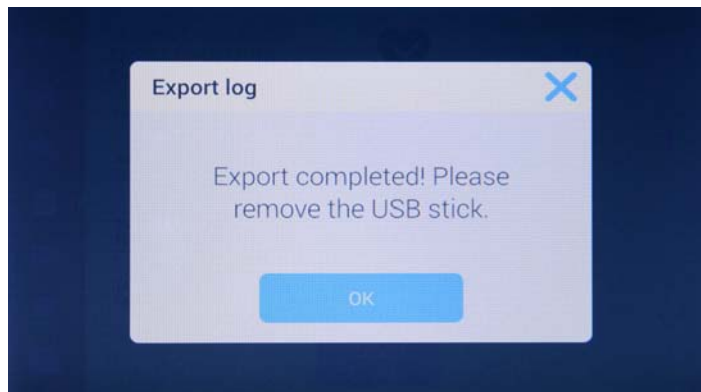

Figure 99 Event Log Screen: Export Completed
5. When the export process has been completed, the final pop-up window shown in Figure 99 appears, announcing that you may remove the USB drive now.